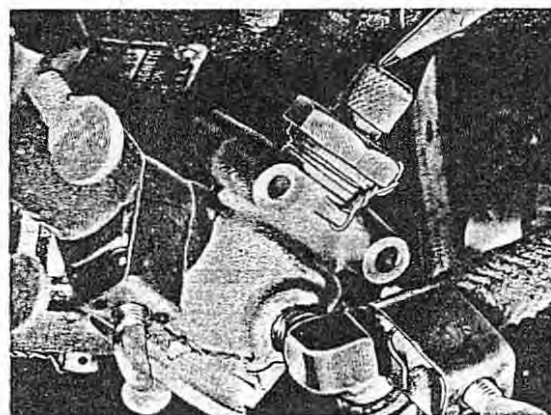

Figure 6-10. Suction Relief Valve Adjustment
1. Adjust the suction relief valve to obtain a gage reading of 4-inches Hg by loosening the locknut and turning the adjusting screw (figure 6-10) counterclockwise to increase suction or clockwise to decrease suction.